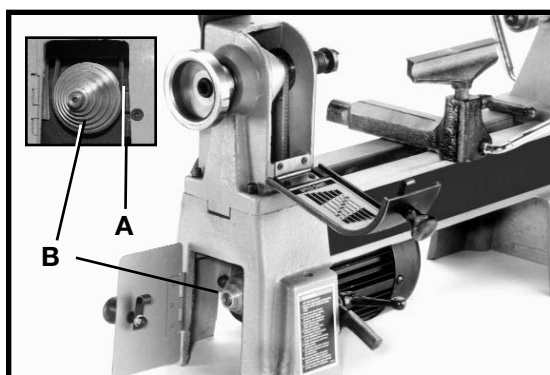

Fig. 31
7. Remove the drive belt (A) Fig. 31 from the motor pulley (B).